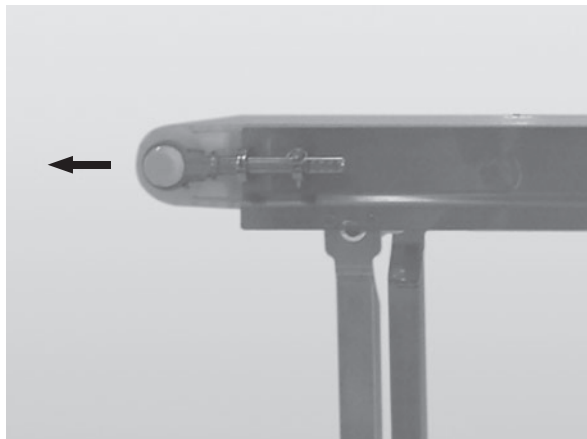

Figure 54
3. Continue extending the tension end until the belt is sufficiently tight (Figure 54).